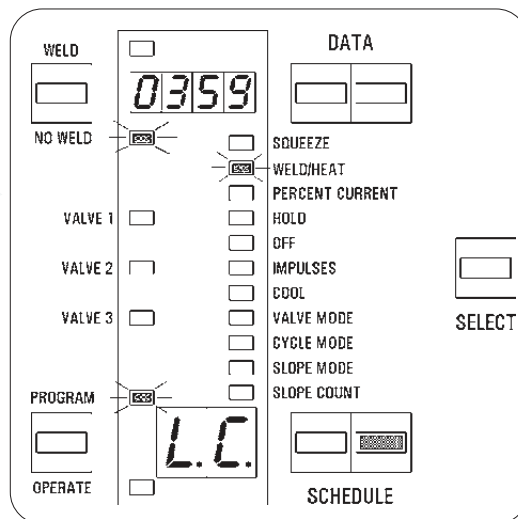

Figure 7-5. Program LAST COUNT
- Press the SCHEDULE push buttons to find **L.C.** in the SCHEDULE display, as shown in Figure 7-5.
- Program the desired LAST COUNT for this stepper; e.g., for stepper **A**, LAST COUNT may be any number from **0000** to **9999**, as shown in Figure 7-5. In fact, this value will be first count at beginning of the weld sequence. This value will be reset or reprogrammed after resetting the stepper.